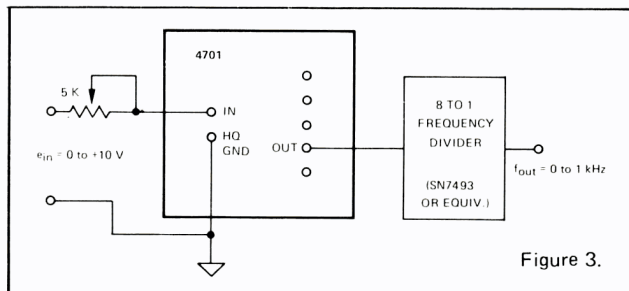

Figure 3.
3. The best way to get a 1 kHz full scale output from a standard 4701 is to put a 5k Ω rheostat in series with the input to get an 8 kHz full scale output and then use a simple 8 to 1 frequency divider on the output (see Figure 3). As with almost any module, attenuation after the 4701 causes less error than attenuation ahead of the 4701. Furthermore, a divide by 8 TTL logic element is low cost and inherently accurate; that is, there will be no TC problems. There is no doubt that this is the most accurate way to do the job. Further, the circuit would give the customer the least trouble to set up and operate. For specific divider elements, we recommend $\frac{3}{4}$'s of the SN7493, or 1 of the SN74193, or $1\frac{1}{2}$ of the SN7474, or any other comparable DTL, COSMOS, OR HNIL digital IC's.